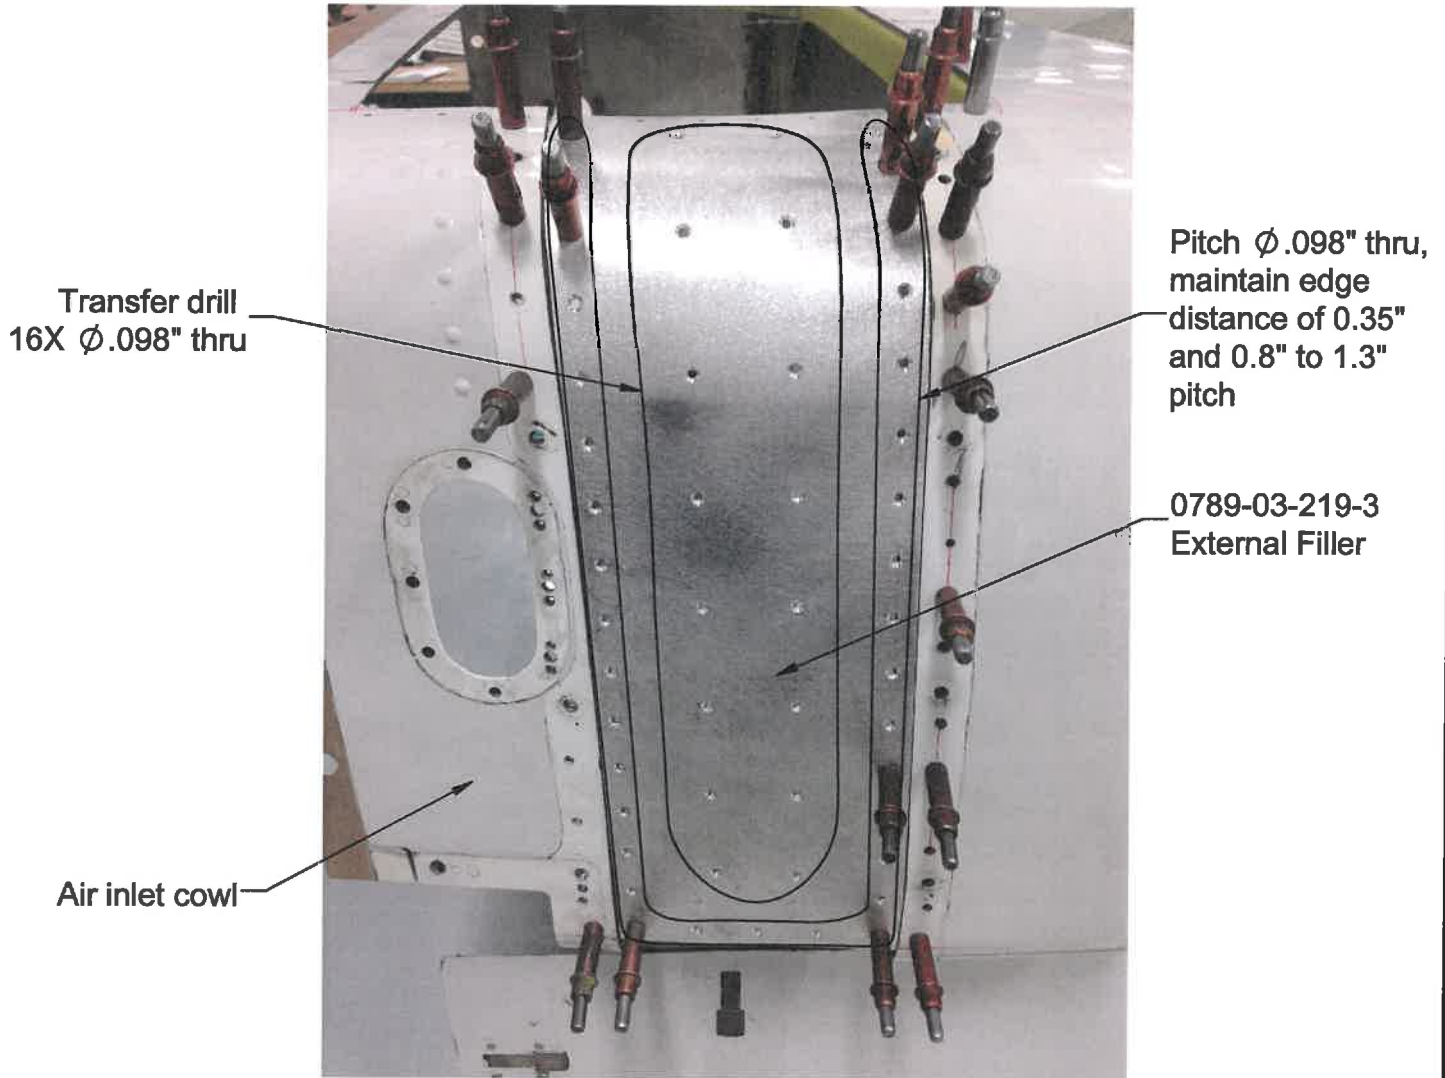

Figure 3: 0789-03-219-3 External Filler Installation
9. Fit 0789-03-219-3 External Filler to doubler. Trim to maintain minimum 0.032" gap with existing skin per Figure 3.
10. Transfer drill 16X ϕ .098" pilot holes from 0789-03-219-3 External Filler to 0789-03-219-1 Inner Doubler as shown in Figure 3.
11. Pitch in ϕ .098" perimeter holes as required through 0789-03-219-3 External Filler and 0789-03-219-1 Inner Doubler, maintaining edge distance of 0.35" and 0.8"-1.3" pitch as shown in Figure 3.